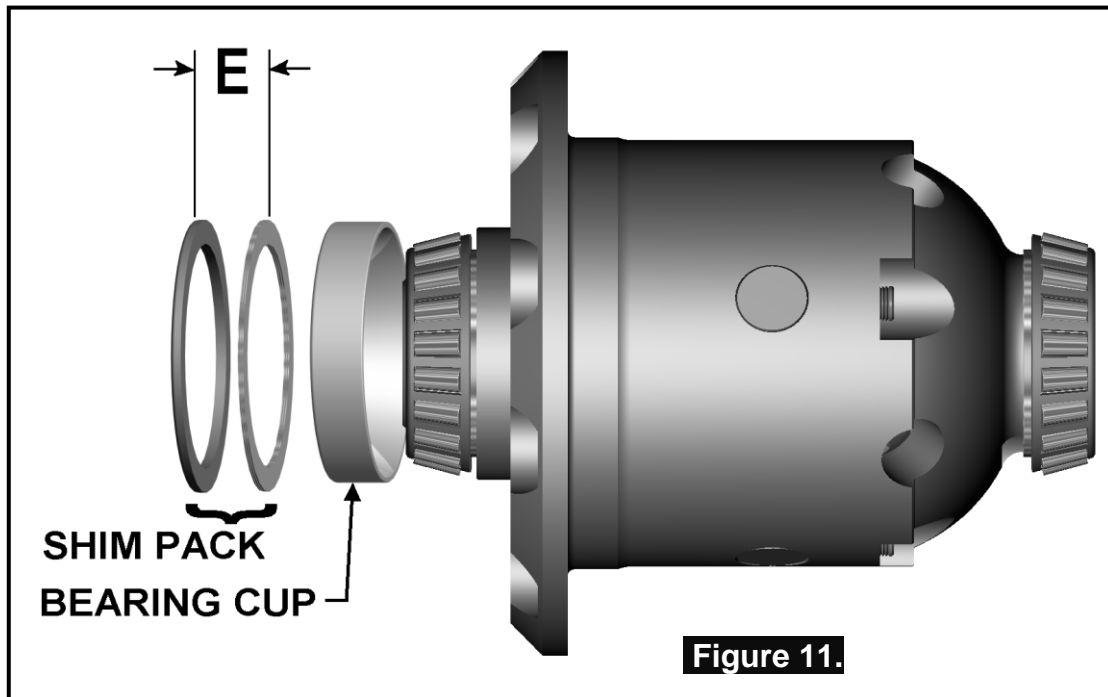

Figure 11.
In order to preload the tapered roller bearings in your *Air Locker*, measurements need to be taken so that a value can be calculated for the total shim thickness 'E' in Figure 11.
- Add the specified preload amount to the end float measurement determined with the feeler gauge to determine a shim amount for 'E' (Refer to Figure 11.).